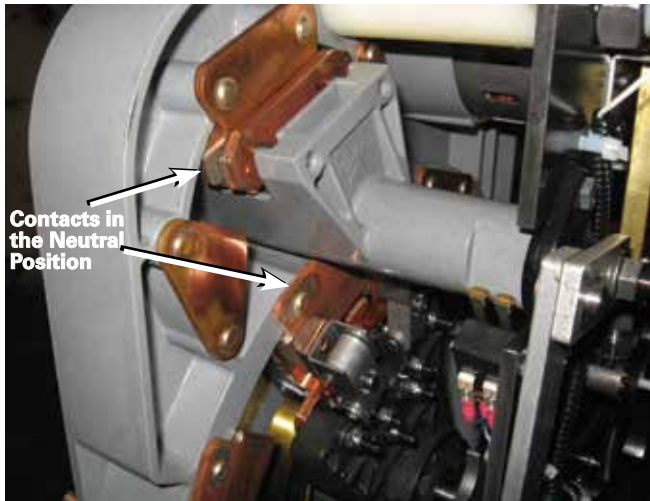

Figure 2. Neutral position.
2. The tap-changer should be in the neutral position before starting the replacement procedure. Refer to Figure 2. If the tap-changer is not in the neutral position, turn the shaft on the back of the motor shaft using a 3/8" socket on a ratchet until the QD5 tap-changer is in the neutral position.